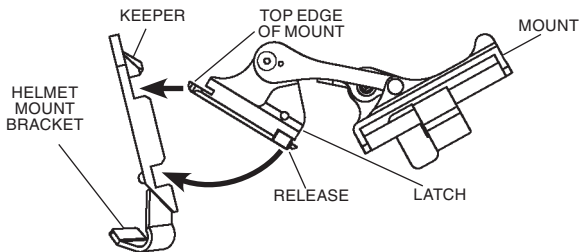

FIGURE 2.6. REASSEMBLY OF HELMET MOUNT
- (6) Hook the helmet mount bracket in the center of the front lip of the helmet and hold it in place (see Figure 2.6.).
- (7) With the buckle lever open, take up the slack in the strap using the catch. Close the buckle lever.
- (8) Disengage the nape strap latch on the left side of nape strap.
- (9) Don the helmet. Do not fasten the helmet chinstrap.
(10) Engage the nape strap at the nape strap latch. Tension the nape strap for a stable fit, then install and tension the helmet chin-strap. The brow of the helmet should be parallel to the ground and the helmet stable on the head.
(11) Insert the top edge of the mount under the keeper on the helmet mount bracket and rotate downward until the latch engages (see Figure 2.6.). To release the mount from the helmet bracket, press the release and pull forward and down.